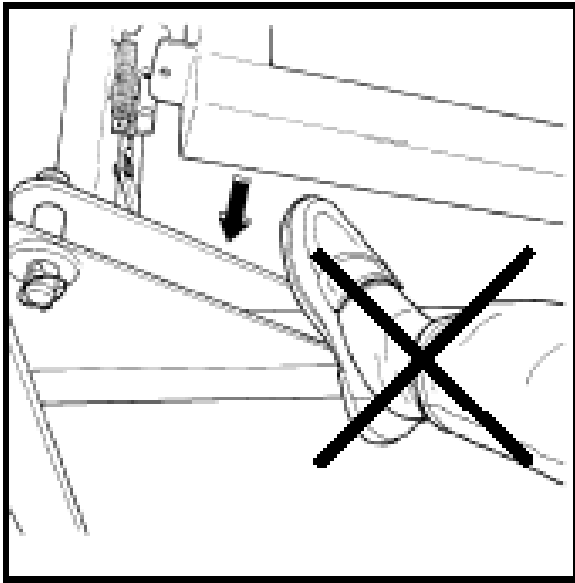

Fig. 2-2
2. When the wrapping of a bale is complete and tipped off the machine, the turntable has to be tipped back before wrapping next bale. When the middle frame with turntable is lowered, there is a squeeze danger between the middle frame and the main frame on both sides and in the back end of the machine. Keep therefore hands and feet at a safe distance. (Fig. 2-2).